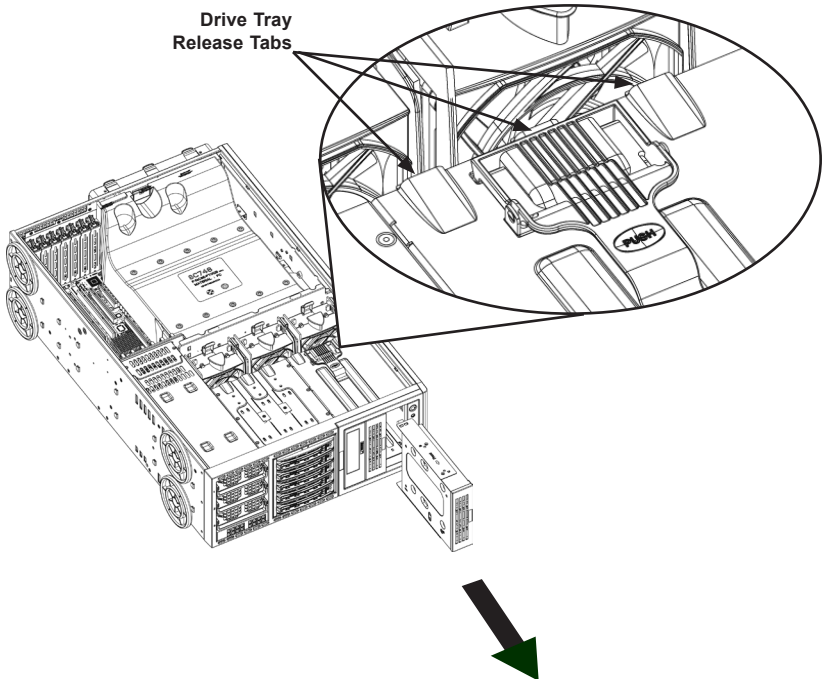

Figure 5-5. Remove Drive Tray
3. Push the drive tray toward the front of the chassis (Figure 5-5).
2. Locate the release tab for the drive tray where you want to place the peripheral drive (Figure 5-5).
2. Press the drive tray release tabs (Figure 5-5).